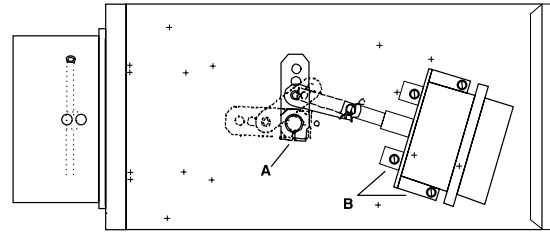
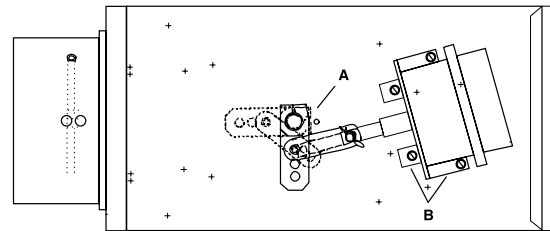

Figure 1 Normally Open Configuration
Figure 2 Normally Closed Configuration
Figure 1 illustrates the standard actuator and linkage orientation for normally open units. Figure 2 illustrates the orientation of a normally closed unit.
4. Ensure the actuator linkage is in the proper orientation as per Figure 1 or Figure 2. Install screws (B) securing actuator mounting bracket to the terminal.
5. Rotate the damper shaft until the damper is in the fail-safe position (full open or full closed) and tighten bolt on the crank arm (A)
Note: The illustrations are for right hand mounting only. The opposite orientation is required for left hand side mounting (Figure 1 normally closed, Figure 2 normally open).